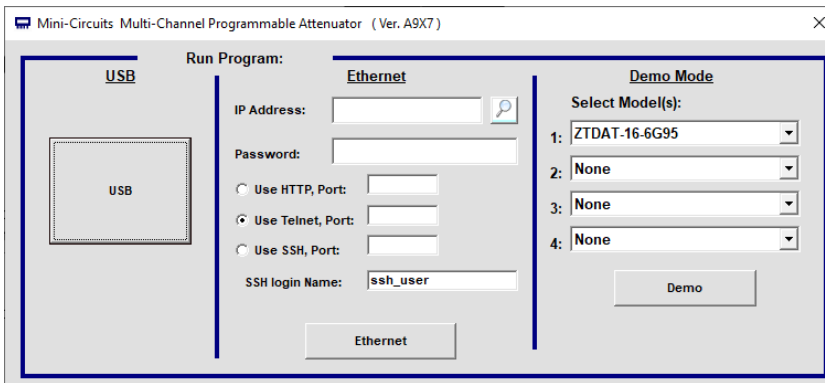

Figure 2: Connection Screen
**Connection Options:** opens up the Connections Screen shown in Figure 2